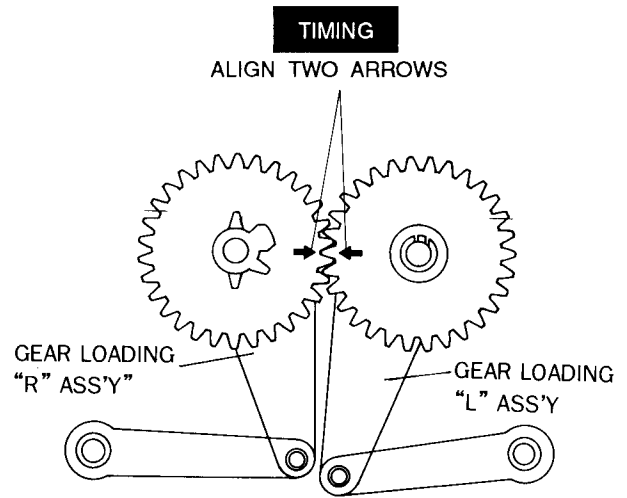

Fig. 44 Reassembly of Gear Loading "L", "R" Ass'y
1. Reassemble the gear loading L/R ass'y in the eject mode while aligning the timing mark. (Refer to Fig. 44)